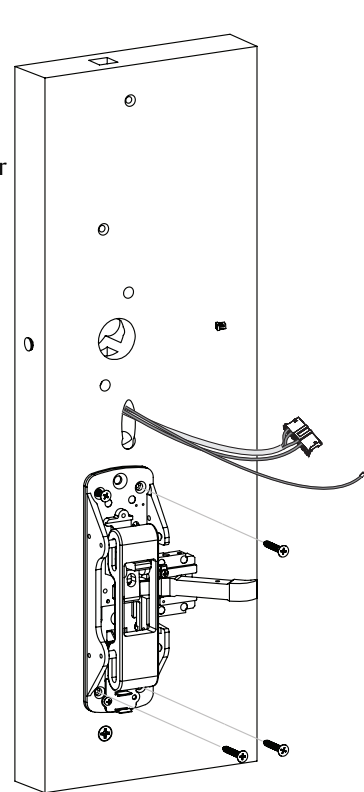

Figure 7-6A
1. Fasten exit chassis to door using three (3) remaining #10 wood screws (for wood door) or #10-24 machine screws (for metal door). (Figure 7-6A)